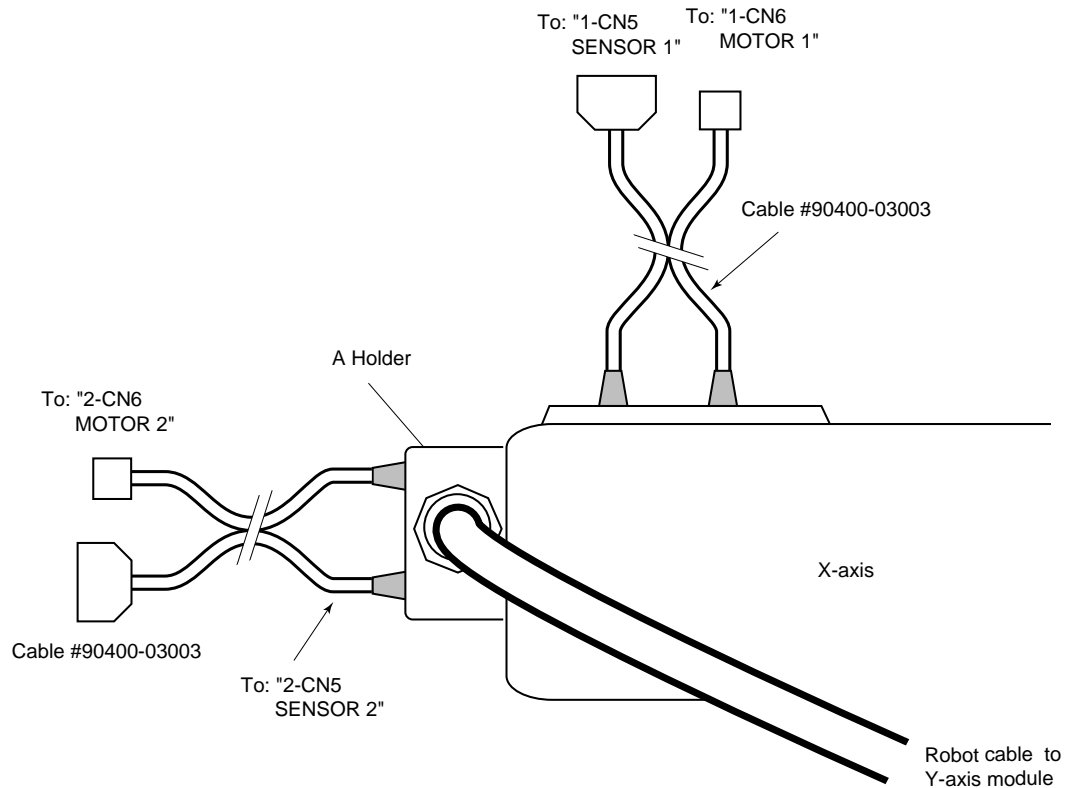

Figure 4-41. Connecting to an EXA or EXC Controller
- a. Connect the two barrel ends of the cable to the X-axis module as shown in Figure 4-41. These connectors have different pin sizes and cannot be installed incorrectly. The other ends connect to the controller connections marked “1-CN6 MOTOR 1” and “1-CN5 SENSOR 1”.
- b. Attach the A holder end of the robot cable to the motor end face of the X-axis module as shown in Figure 4-41 (refer to Section 4.3 for holder mounting).
- d. Connect the two barrel ends of the controller cable to the Z-axis robot cable holder on the X-axis module as shown in Figure 4-41. These connectors have different pin sizes and cannot be installed incorrectly. The other ends connect to the controller connections marked “2-CN6 MOTOR 2” and “2-CN5 SENSOR 2”.